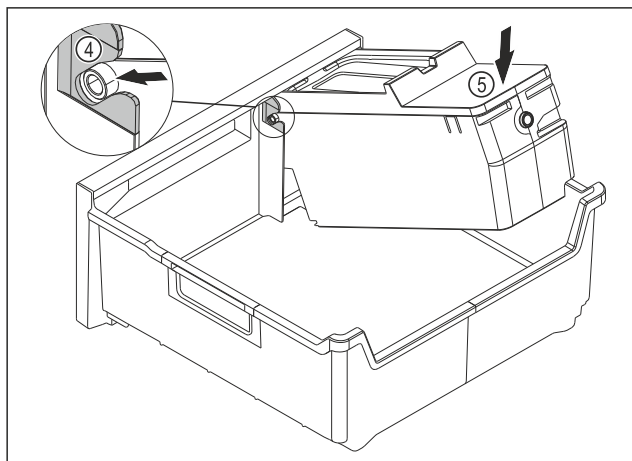

Fig. 169
- ▶ Installing the EasyTwist-Ice body: Insert the axes of the EasyTwist-Ice body into the guides Fig. 169 (4).
- ▶ Press down the EasyTwist-Ice body Fig. 169 (5) at the rear.